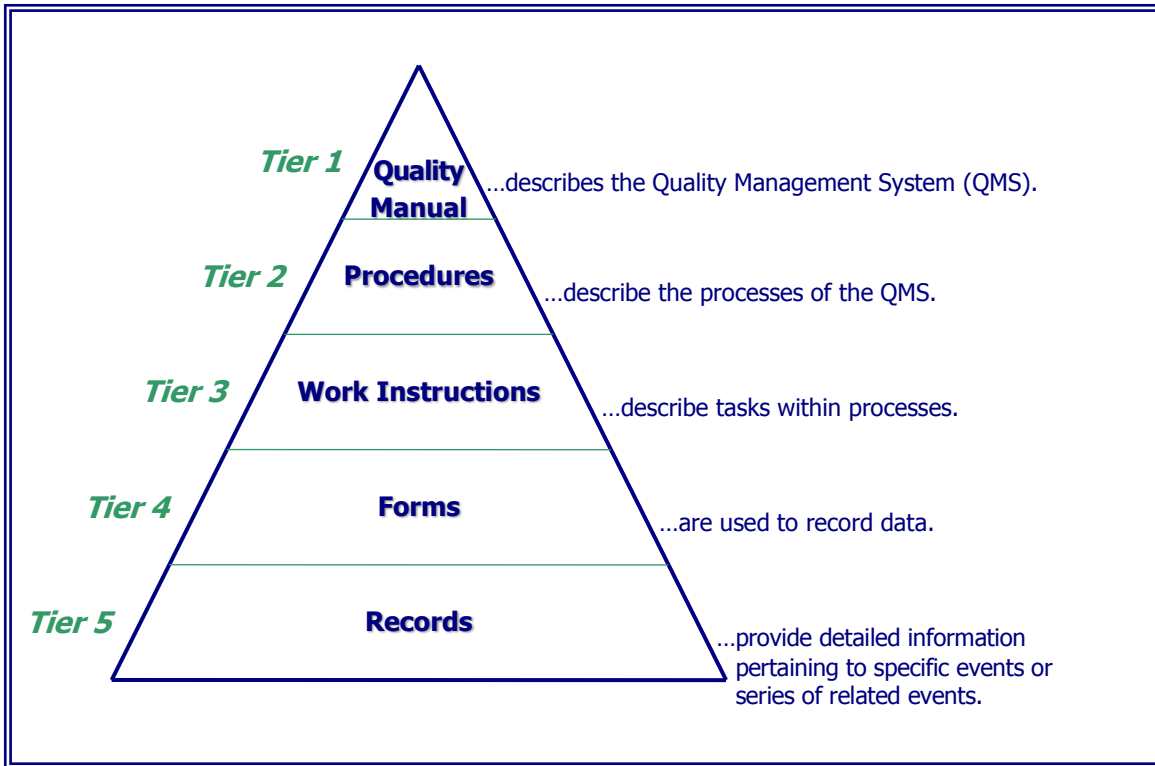

Figure 2
8.2.1 The document system is tiered as shown in Figure 2.